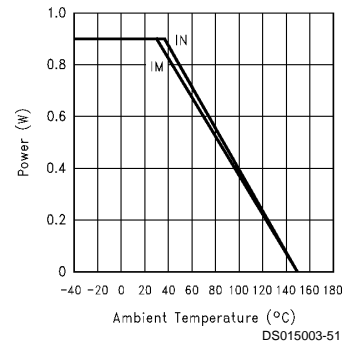

FIGURE 12. Power Derating Curve
3. Calculate the total RMS power: $P_t = P_{amp} + P_O$ The maximum power that the DIP and SOIC packages can dissipate at a given temperature is illustrated in *Figure 12*. The power derating curve for any CLC5632 package can be derived by utilizing the following equation: